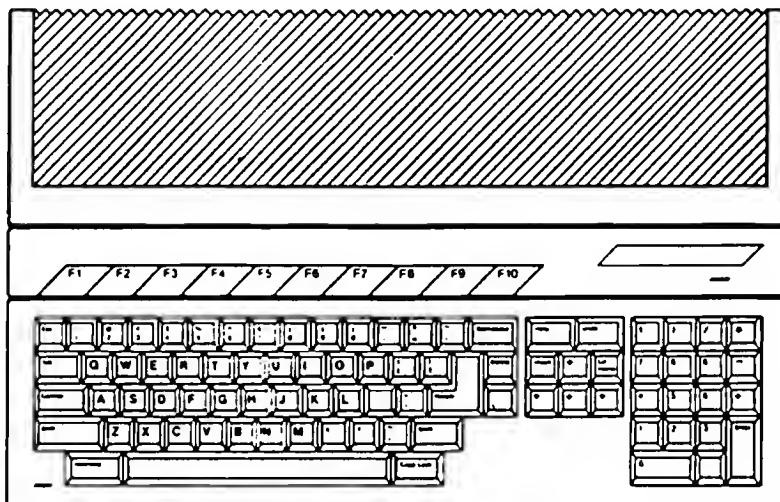

Figure 1.1b
- The 1040ST case has in addition, a lens for the disk drive busy LED in the mid right side of the case (Fig. 1.1b).